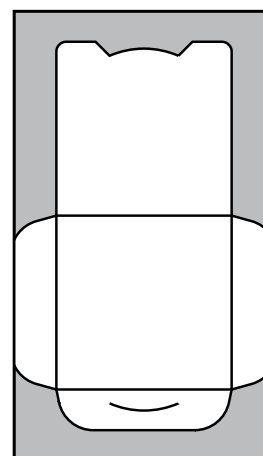

Fig. 3
2. Tear away the waste shown in grey - where possible pre-fold the perforated line to weaken as you are tearing. (Fig.3)